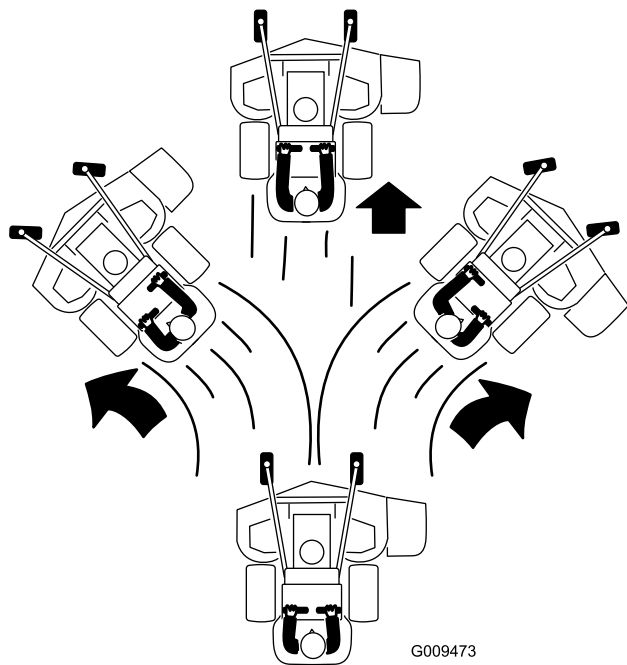

Figure 22
4. Slowly push the motion-control levers forward (Figure 22).